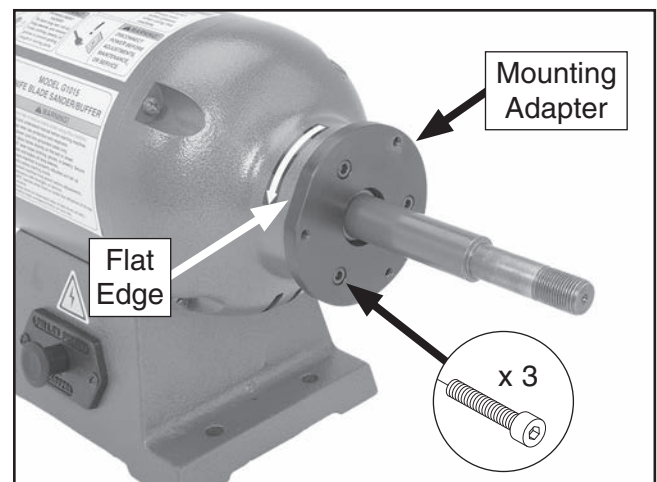

Figure 8. Mounting adapter installed.
1. Slide the mounting adapter onto the right-hand arbor of the motor assembly with the countersunk holes facing out, then rotate it so that the flat edge is at the 10 o'clock position, as shown in **Figure 8**.